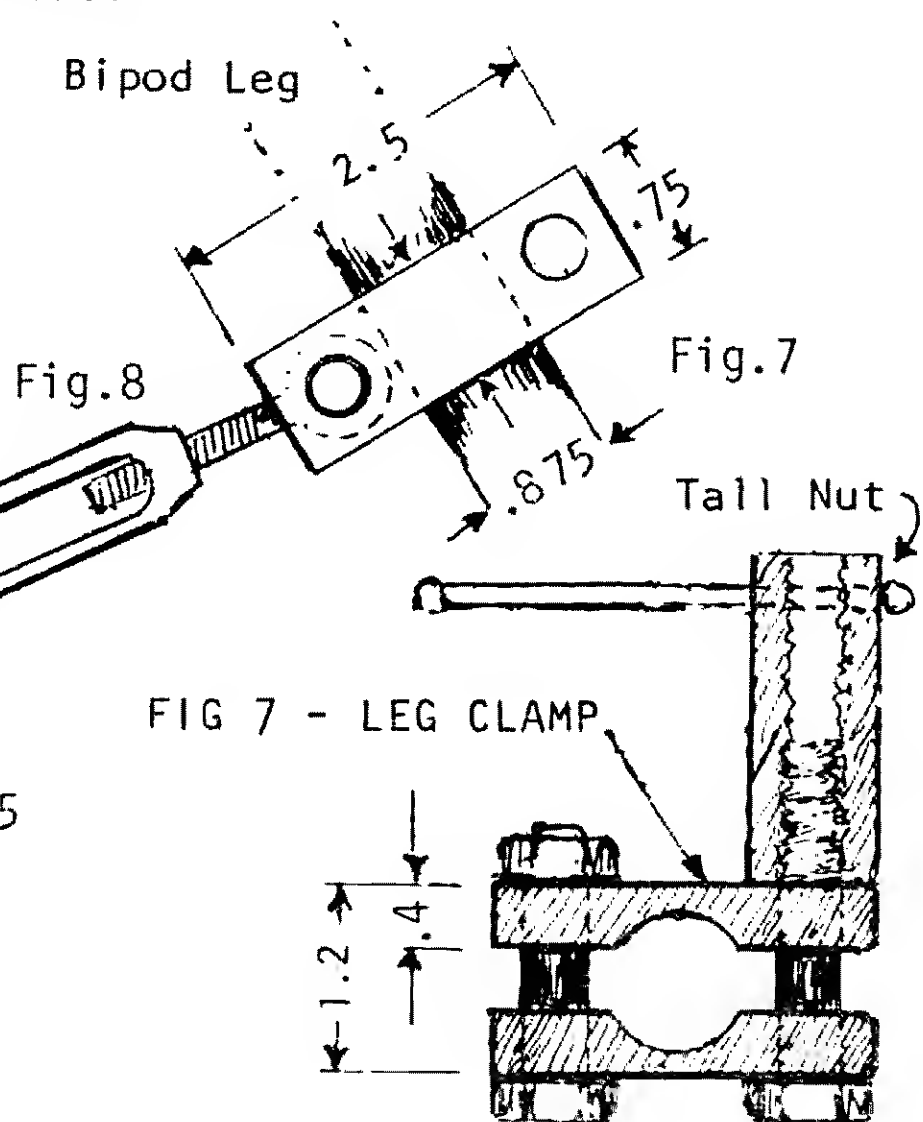

FIG 7 - LEG CLAMP
4.-Coarse/Fine Leveling Adjustments Fig.7
Construct clamp from a block of aluminum as outlined in Fig.7. Finished clamp should hold firmly when tightened and should slide freely when loosened. Secure clamp to bipod leg w/same screw and "tall" nut shown in Fig.2.